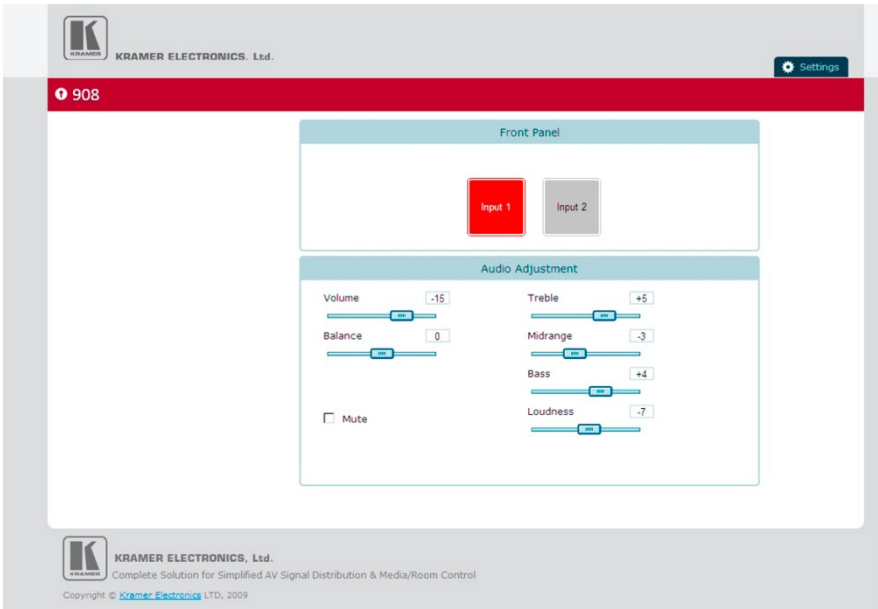

Figure 11: The 908 Control Window
4. Click Run. The **908** Control Window opens (see Figure 11):